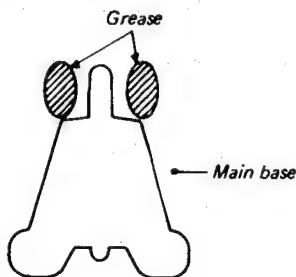

Fig. 1-3-40 Idler assembly replacement (3)
9. When mounting the idler assembly, be sure to grease. (Fig. 1-3-40)